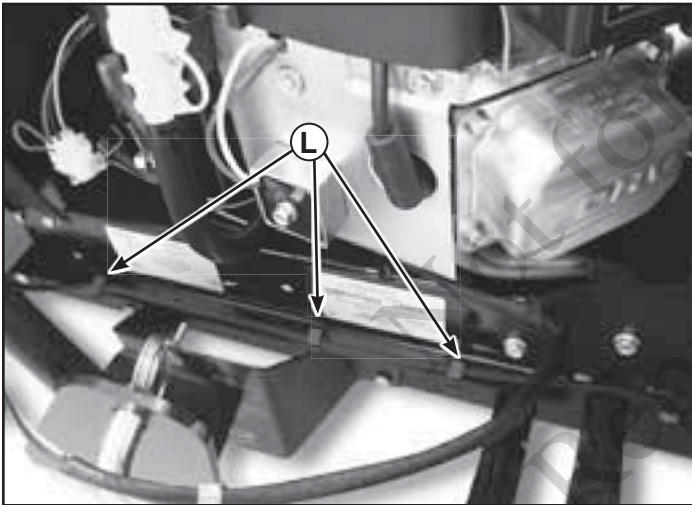

Figure 29
7. Secure wiring harness in place with clips (L, Figure 29) to the frame rails.